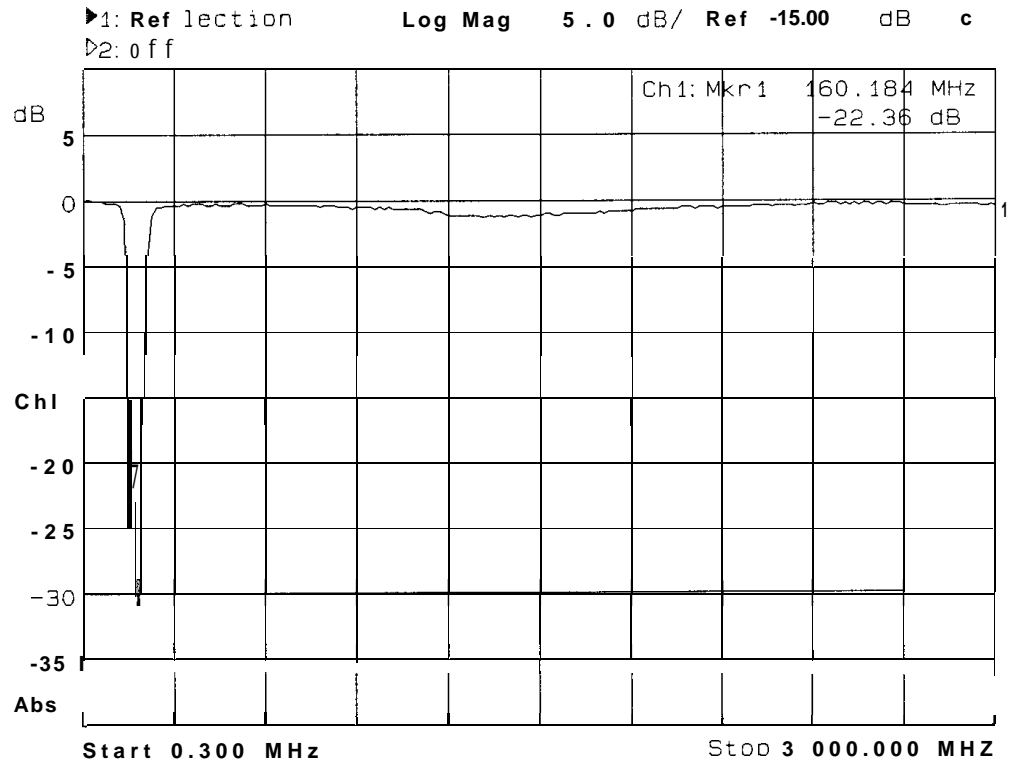

Figure 3-10. Example of a Reflection Measurement Display
2. To interpret the reflection measurement, refer to Figure 3-10 or your analyzer's display if you are making this measurement on your instrument.